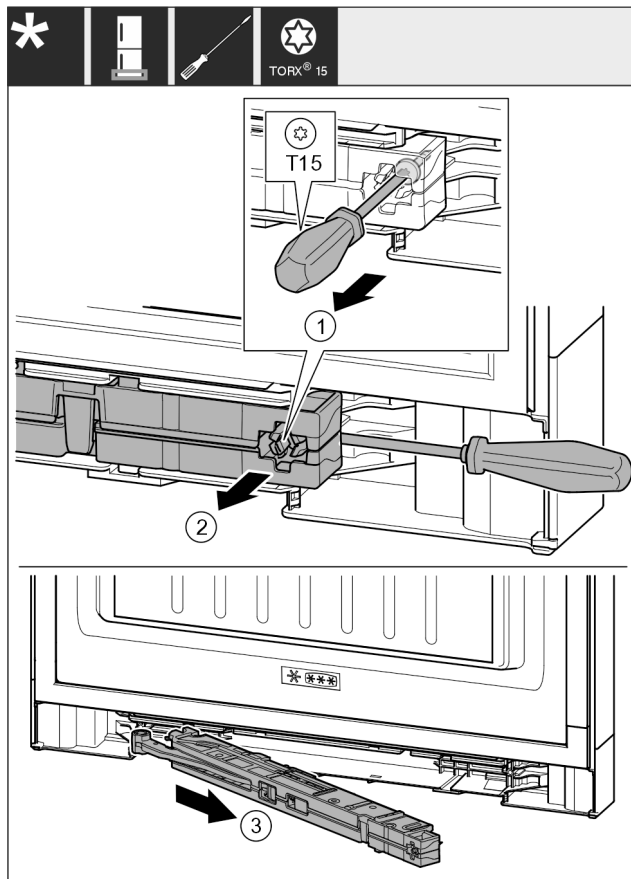

Fig. 17
- Undo the soft stop mechanism screw with a T15 screwdriver approx. 14 mm. Fig. 17 (1)
- Insert the screwdriver on the handle side behind the soft stop mechanism. Turn the unit forwards. Fig. 17 (2)
- Pull out the unit. Fig. 17 (3)